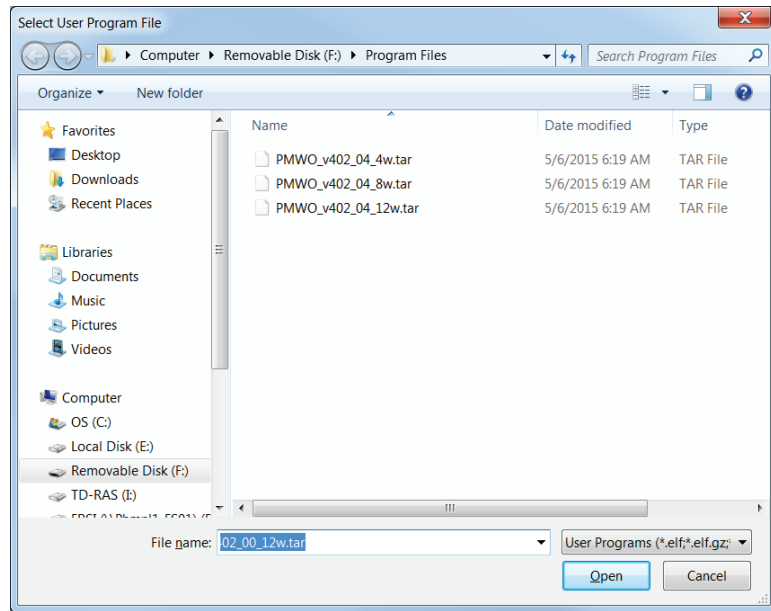

Figure 7. Select User Program File
5. Click **Browse** in the Download User Program File frame. The Select User Program File screen displays (see Figure 7).
6. Select the path and user program file to download from the CD-ROM. (Program files are typically located in the Program Files folder on the CD-ROM). As Figure 7 shows, the screen lists all valid user program files with the **.bin** (for FB107) or **.tar** (for ROC800) extension: